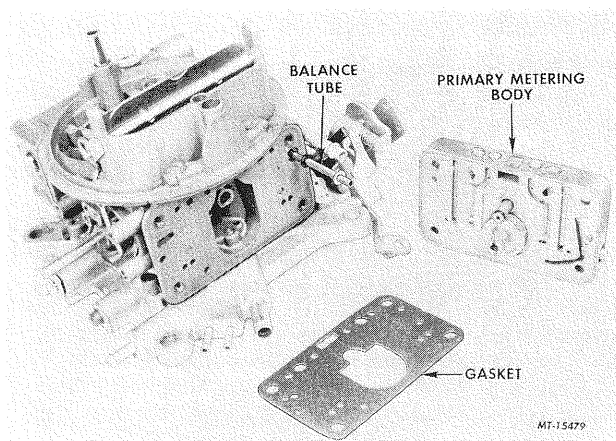

FIG. 27 Removal or Installation of Primary Metering Body (with Pump Transfer Tube)
1. If metering body and bowl gaskets were not installed previously under No. 4, describing assembly of primary metering body, do so now. Press gaskets down firmly on dowels, not only to hold them in place but to prevent bowl gasket from interfering with the float (Figures 27 and 29).
5. Install a new "O" ring on the extreme end of each end of fuel transfer tube. Apply Vaseline lightly on "O" ring and install transfer tube into opening in primary fuel bowl. The "O" ring will roll into proper position as tube is installed (Figure 27).